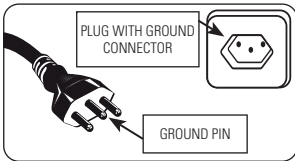
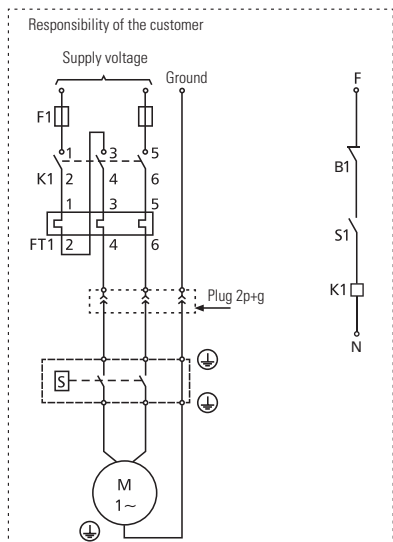

FIGURE 8.1 - PLUG AND POWER OUTLET CONNECTION (SINGLE PHASE)
FIGURE 8.2- SINGLE-PHASE ELECTRICAL CONNECTION SCHEME (MOTOR WITHOUT THERMAL PROTECTION)
- Consult a specialized technician to evaluate the general conditions of the electrical network and select the proper electrical devices for supply, connection (Figure 8.1) and protection.
- The electrical wires must be dimensioned according to the motor power, electrical network voltage and distance from the energy source (orientations in Table 8.1) to the motor, connected to the voltage (V), as indicated on the tag on the electric motor or power cord.
- For safety and warranty of the electric motor, the orientation on Figure 8.2 must be followed. The non-compliance might cause the motor to burn out and warranty loss.
- For motor protection, the orientations of Figure 8.2 must be followed.